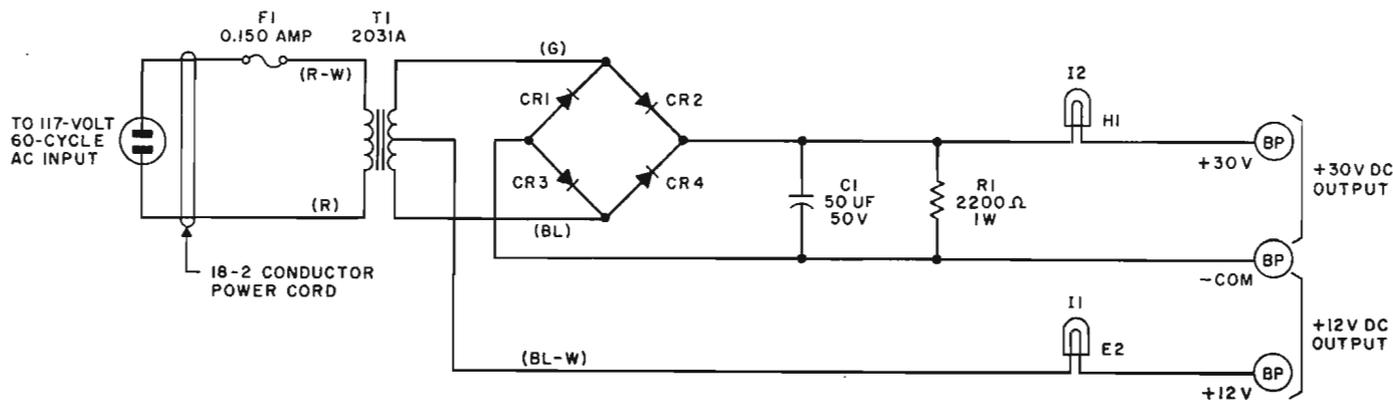

Fig. 4 — J87202A, List 1 Rectifier Schematic
**5.01** Rectifier maintenance is limited to checking for and replacing a blown fuse (Fig. 4). If fuses check okay and rectifier fails to put out required voltages, replace rectifier.